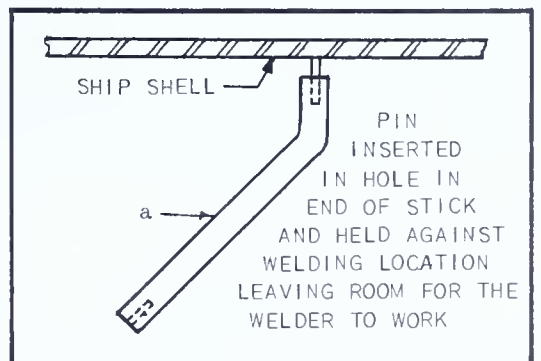
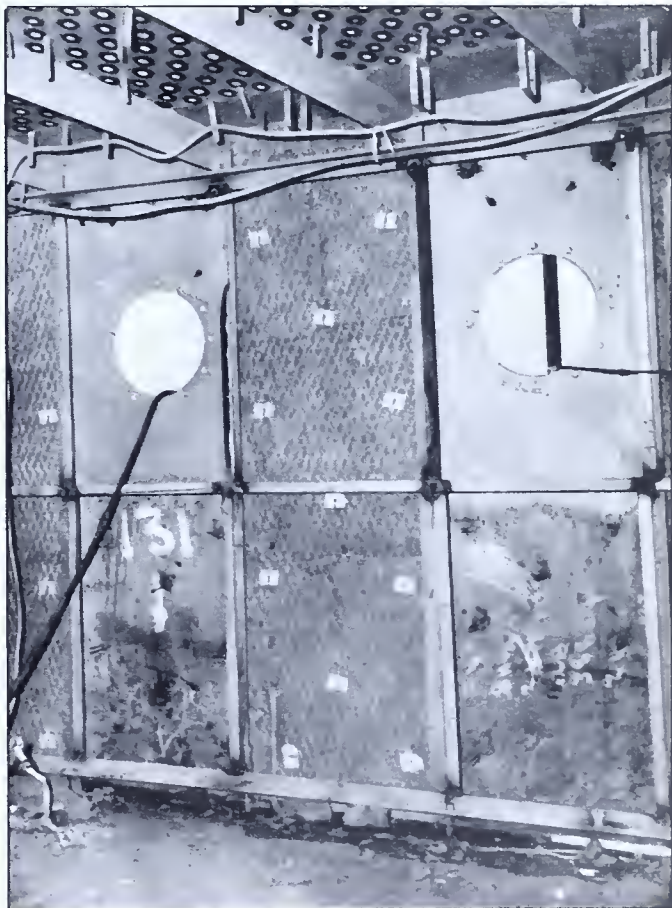

FIG. 71 — *Using a Holder Stick*
FIG. 72 — *Insulation in place*
3. Insert pin in wooden holder and hold in position for welding. See Fig. 71. Be sure to set the pins so that the pin legs will bend with the length of the "diamond". Fig. 72.